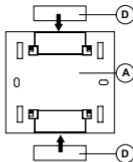

Fig 4.
- c. a smooth (non-metal!) surface using the adhesive strip supplied (fig. 4).